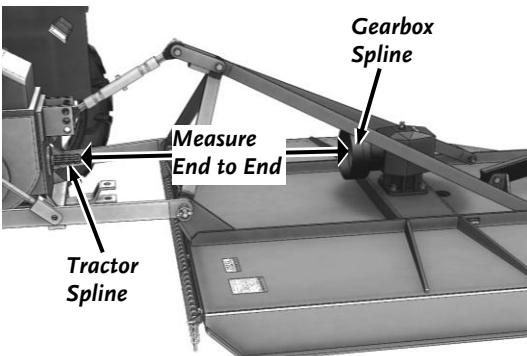

Figure 12: Level Position
2. Raise the Mower up until the Tractor PTO Spline and Mower Gearbox Shaft are Level with each other (Figure 12). Measure from the end of the Tractor Spline Shaft to the end of the Mower Gearbox Shaft and record this dimension in the "SHAFTS LEVEL" row of the table above.